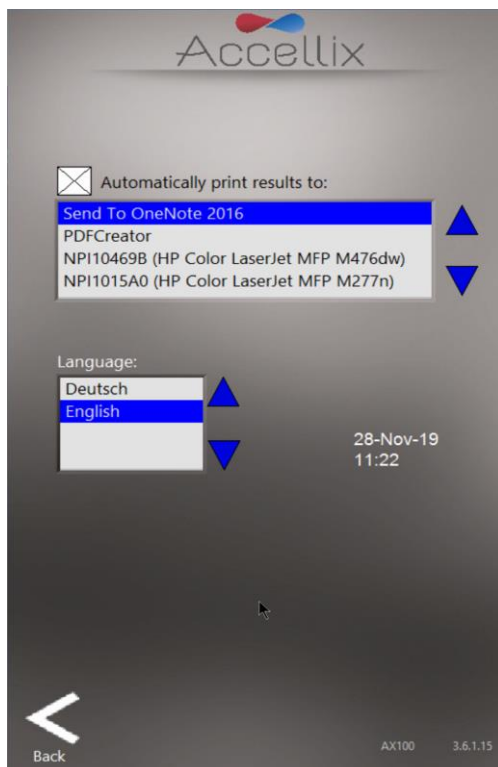

Figure 17: Settings screen
3. Tap the **Settings**  icon at the bottom right of the **Home** screen to access the **Settings** screen (Figure 17).